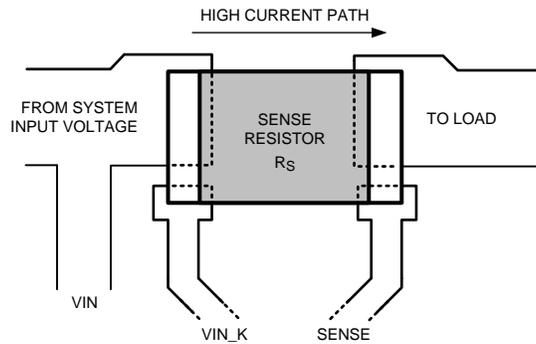
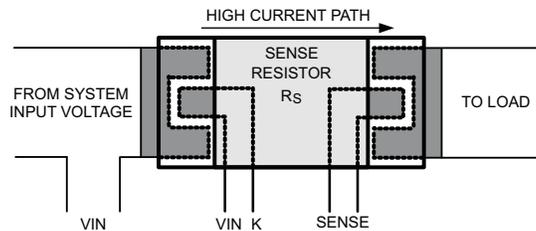

Figure 14. Sense Resistor Connections, Edge Sensed
Figure 15. Sense Resistor Connections, Centered Sensed
Connections from  $R_S$  to the LM5056/LM5056A should be made using Kelvin techniques. In the suggested layout of Figure 14 the small pads at the lower corners of the sense resistor connect only to the sense resistor terminals, and not to the traces carrying the high current. With this technique, only the voltage across the sense resistor is applied to  $V_{IN\_K}$  and  $SENSE$ , eliminating the voltage drop across the high-current solder connections.
If the PCB layout and resistor pads allow for it, the connection shown in Figure 15 gives optimal kelvin sensing performance.
- The sense resistor ( $R_S$ ) should be placed close to the LM5056/LM5056A. Connect  $R_S$  using the Kelvin techniques shown in Figure 14 or Figure 15.